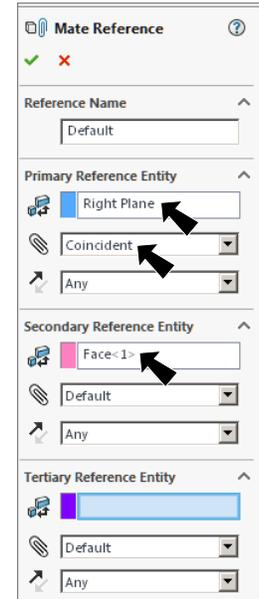

Fig. 9
Step 3. In the Mate Reference Manager: under **Primary Reference Entity**, Fig. 9